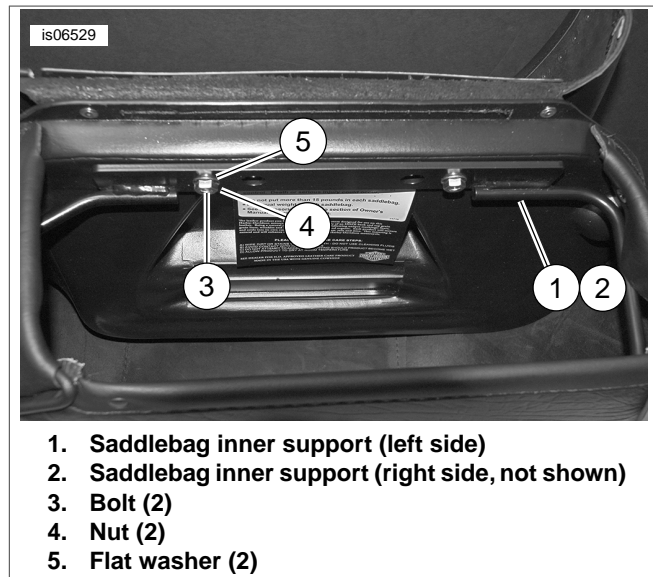
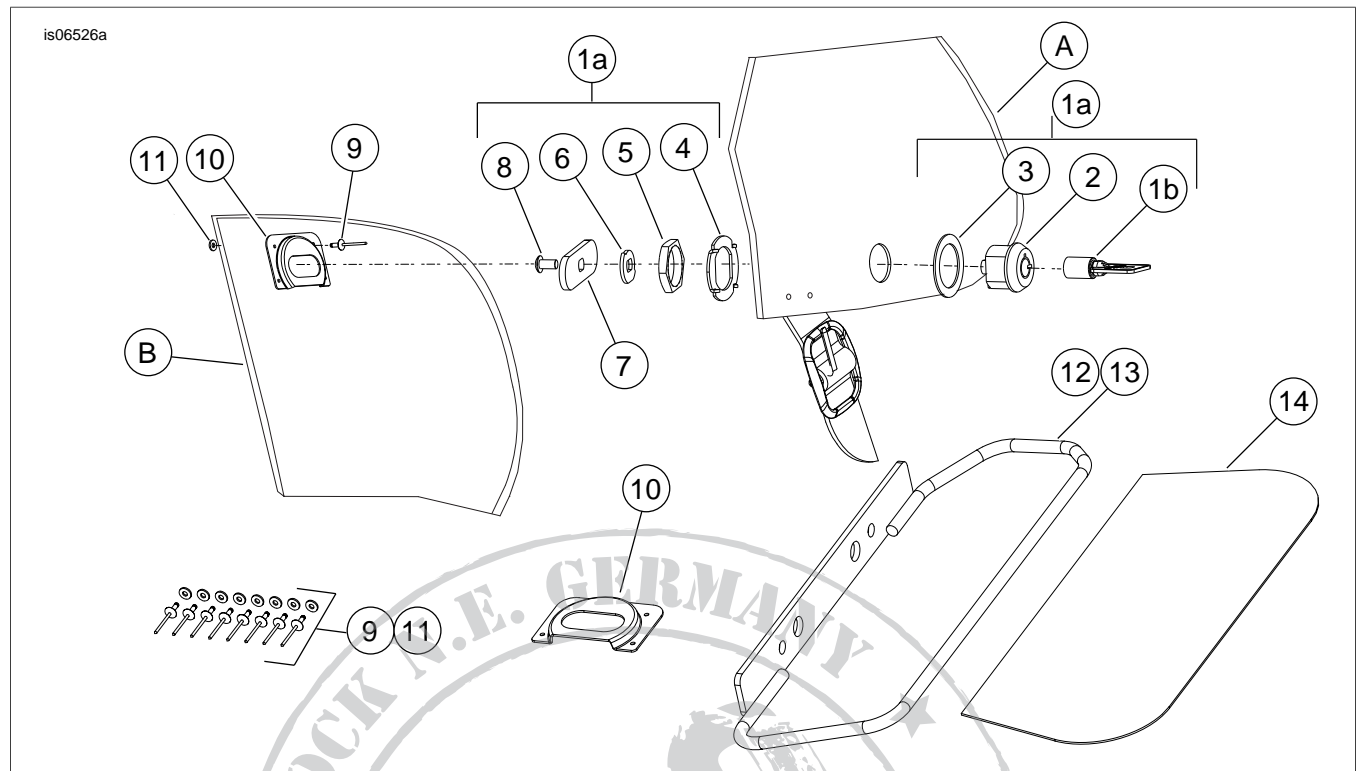

Figure 3. Temporary frame installation
Figure 5. Service Parts: Heritage Bags Flat Top and Lock Kit
See Figure 5 and Table 1.
7. See Figure 5 and Table 1. Install flat washer (3) to lock assembly (2).
8. Insert lock assembly through the hole in the lid and install anti-rotation ring (4), with prongs to the leather side, on the inside of the lid.
9. Install nut (5) over anti-rotation ring and tighten with 7/8 inch wrench or socket.
10. Install cam plate (6), T-bar (7) and screw (8). Tighten screw to lock assembly. Use the key to work the lock assembly to see if the cam is installed correctly.
11. See Figure 3. Install saddlebag inner supports, left (1) and right (2). Use 5/16-18 temporary bolts (3), nuts (4) and washers (5) (not provided in kit) to mount the frame which will assist in the installation of the lock plate.
14. See Figure 5 and Table 1. Use a pop rivet gun and blind rivets (9) and washers (11) to fasten lock plate to the saddlebag tub. Washers will be placed on the inside of the saddlebag tub over the head of the pop rivet.